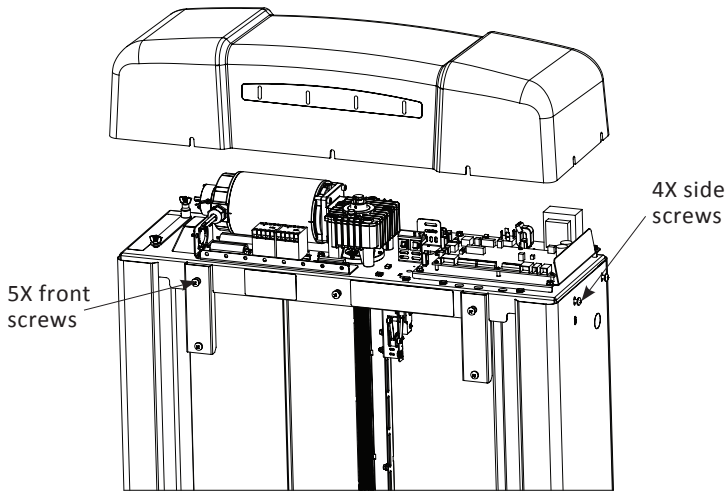

Figure 4-1
2. Remove the plastic top cap by loosening the four (4) side screws and lifting the top cap. This part will be replaced by the Highlander II with enclosure metal top cap. *See Figure 4-1.*